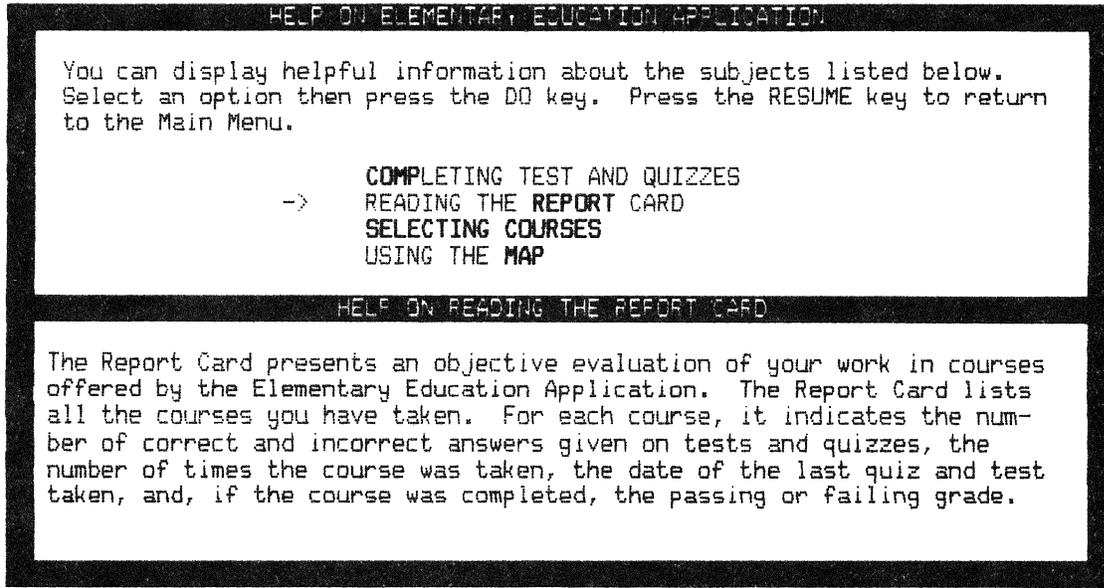

Figure 4-3: Reading the Report Card
4. Select **Reading the Report Card**. A help text frame will appear (see Figure 4-3).